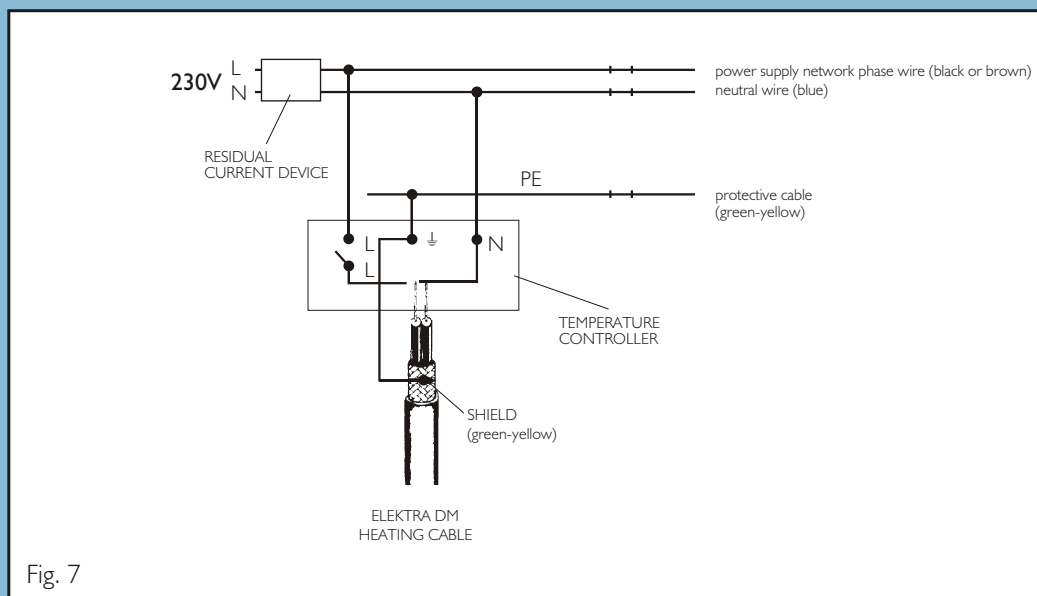

Fig. 7
Absolute safety of ELEKTRA DM heating set is assured by a copper shield covering the entire length of the heating cable and the cold tail cable. The shield must be connected to a protective cable (PE) as shown on Figure 7. A  $\leq 30$  mA residual current device protecting against electric shock must be installed in heating installations. This residual current device can be a common device for multiple circuits. When ELEKTRA DM heating cables are installed in rooms, where there is no residual current device such a device must be installed for the heating cables.